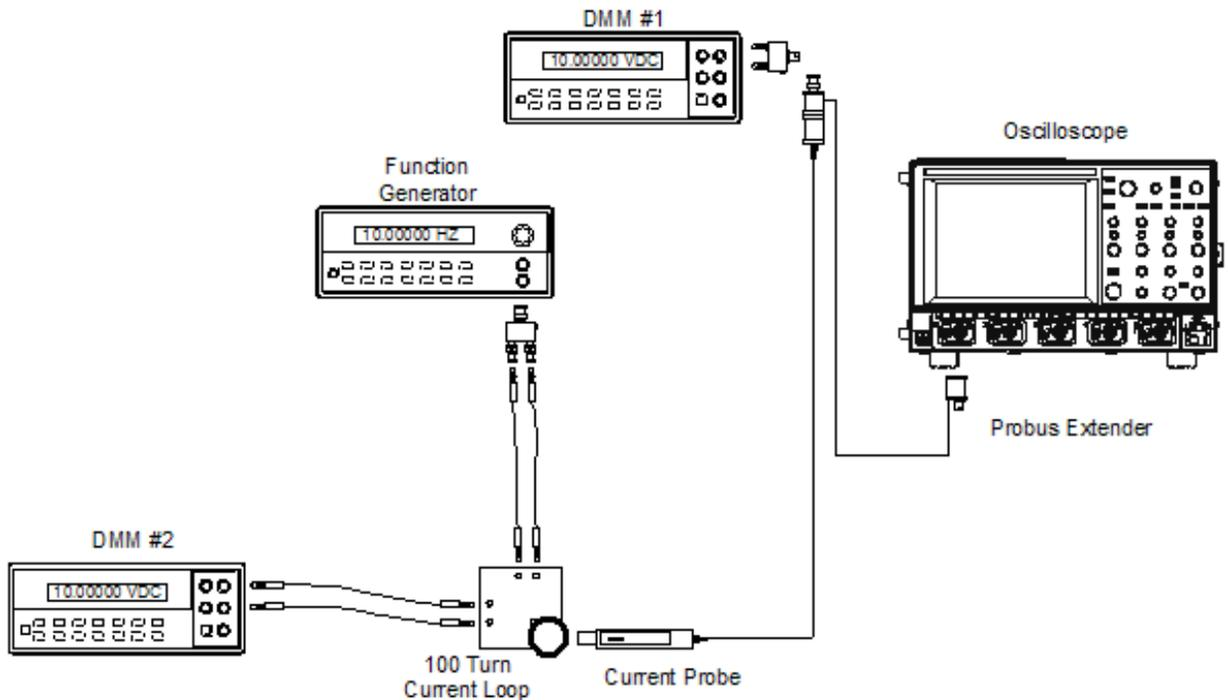

Figure 2. LF accuracy adjustment set up.
3. Using banana patch cords, connect the 'V Source' and 'V Return' terminals of the 500 Turn Calibration Loop, to the output of the Function Generator using the BNC to Dual Banana Plug Adapter output. (Refer to Figure 2.)